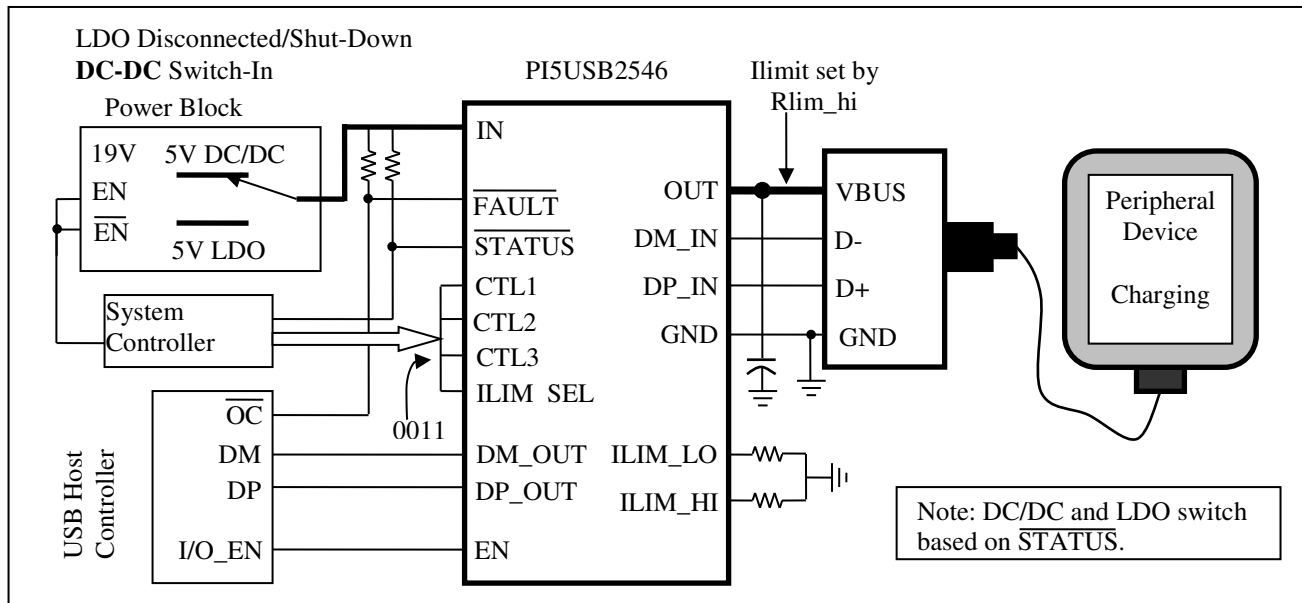

Figure 7, Case 1: System in S4/S5, Device Charging
Following Power Wake flow chart when a device is attached and draws >55mA of charging current the PI5USB2546 will hit its internal current limit. This will trigger the device to assert /STATUS (LO) and turn on the DC-DC converter and turn off the LDO. PI5USB2546 will discharge OUT for >2s (typ.) to allow the main power supply to turn on. After the discharge the device will turn back on with current limit set by ILIM_HI (Case 1, Figure 7)